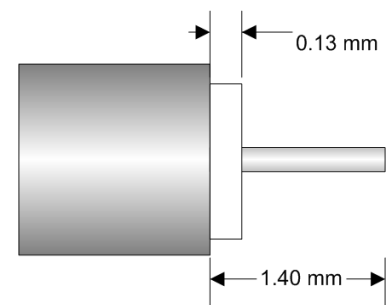

Figure 2. Cable Preparation
- Cut the cable to the length desired and deburr the ends. Refer to Figure 2 while performing the following steps.
- Insert the cable into position 2 of the 01-309 fixture until the outer conductor bottoms in the hole and the center conductor is protruding from the back of the fixture. Using the cutting tool, cut the center conductor flush with the fixture. After cutting, the center conductor should protrude 1.40 mm from the outer conductor as shown in Figure 2.